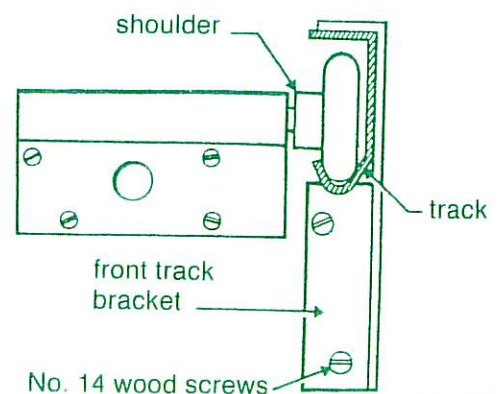

Fig. 8
- 10.** Check that side clearances around door are still equal. Slide tracks over door rollers ensuring that shoulder of spindle is in contact with door roller bracket. Fix front track brackets with 38 mm (1¹/₂"") × No. 14 Round head screws (pilot with 2.75 mm (1/8"") drill) so that the wheels are just bearing in the tracks without lifting the door. See Fig. 8.